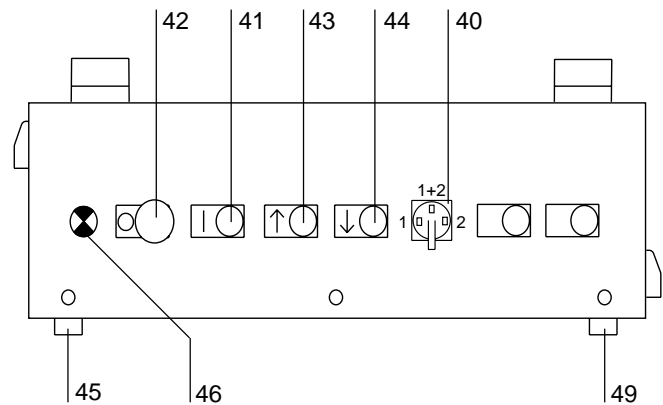

Fig. 6 - Platform control box
- 1 control box (Fig. 6) for controlling the hoist(s)